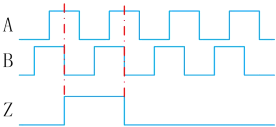

Figure 5.21 Timing diagram of pulse division output
**Example:** As shown in Figure 5.21, set Pn071 to be set to 4 and the Z pulse width to be 4 times the quadrature AB pulse width.